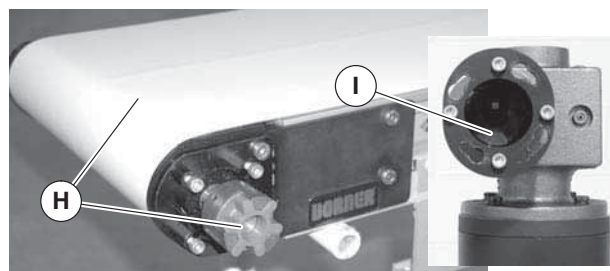

Figure 5
3. Rotate conveyor belt and attached conveyor coupling (Figure 5, item H) to align with gearmotor coupling (I).